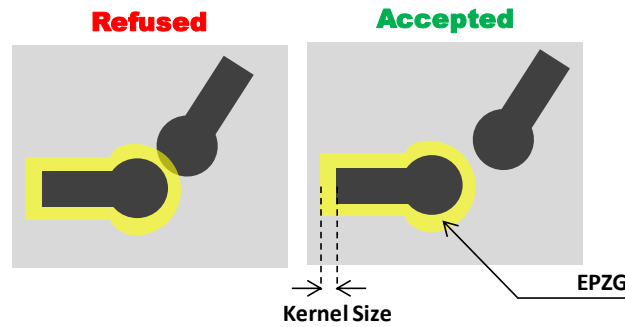

Figure 5-5-22: Empty Picking Zone Growing (EPZG)
Step 1	The EPZG tool is configured in a very similar way to the Pre-localization tool. So, to avoid performing the same step a second time, the first step is to simply copy the Pre-localization tool exactly by right-clicking on the "01 – Growing" tab (see Figure 5-5-22). Click on the  button to run the tool